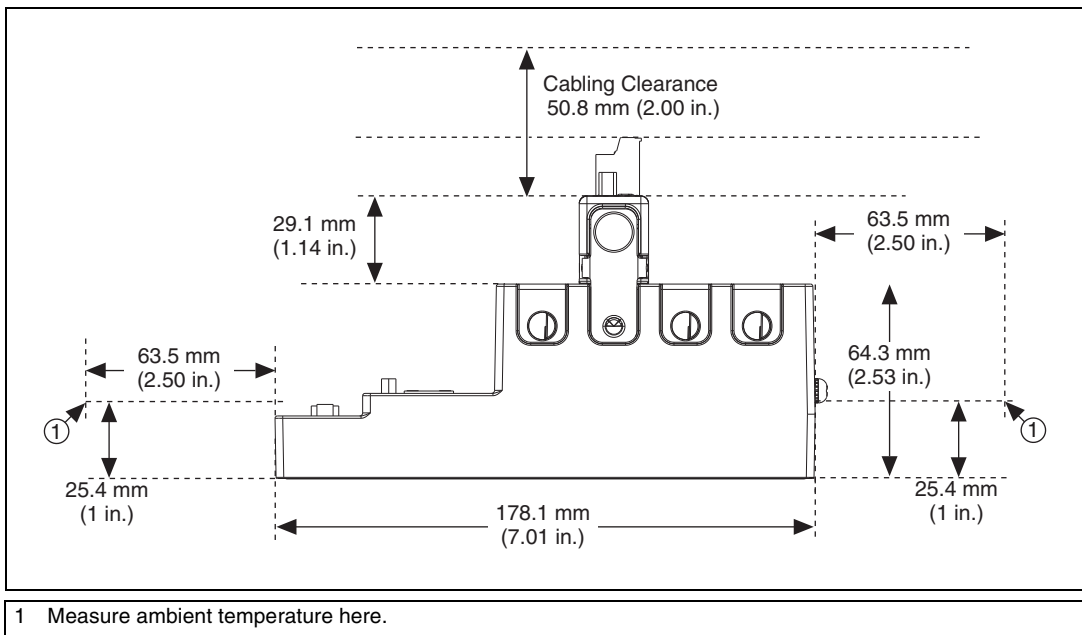

Figure 3. cRIO-9075/9076, Bottom View with Dimensions
Note Measure the ambient temperature at each side of the chassis, 63.5 mm (2.5 in.) from the side and 50.8 mm (1 in.) forward from the rear of the chassis, as shown in Figure 3.
- Allow 50.8 mm (2 in.) in front of modules for cabling clearance for common connectors, such as the 10-terminal, detachable screw terminal connector, as shown in Figure 3.